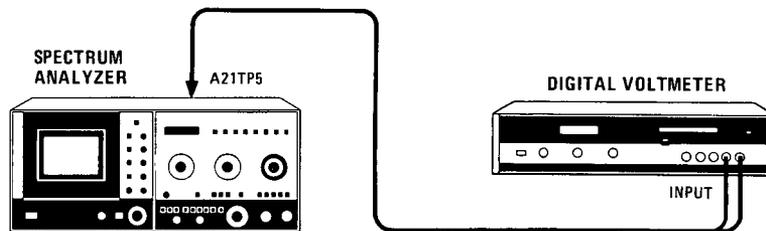

Figure 5-14. Horizontal and Vertical Gain Adjustments Test Setup
- b. Reconnect power cord, set LINE switch ON, connect equipment as shown in Figure 5-14, and set 8565A controls as follows: